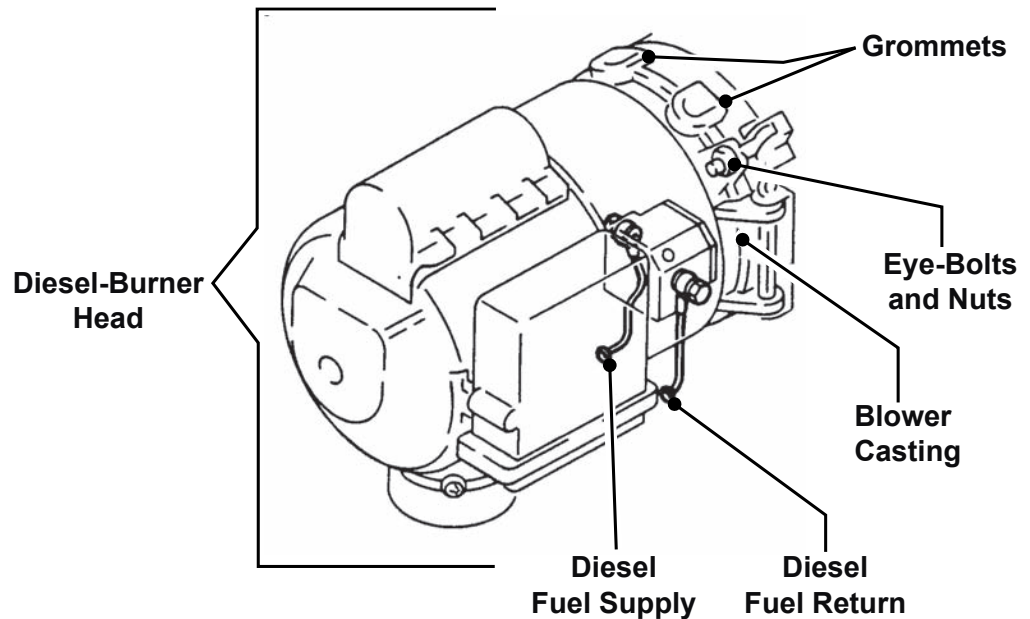

Figure 10
1. Loosen the two *Eye-Bolt Nuts* and swing the *Eye-Bolts* out of the way; reference Figure 10.
CAUTION: When reattaching the *Diesel-Burner Head*, be sure to properly align the *Diesel-Burner Head* before tightening the *Eye-Bolt Nuts*. Also, visually inspect all of the rubber *Grommets* on the top and bottom of the *Diesel-Burner Head*’s cast-aluminum *Blower Casting* to ensure they are in place. **DO NOT** overtighten the *Eye-Bolt Nuts* (torque specification = approximately 20-40 in. lbs.). An improper alignment and/or an overtightening of the *Eye-Bolt Nuts* can cause damage to the *Diesel-Burner Head*’s cast-aluminum *Blower Casting*; reference Figure 10.